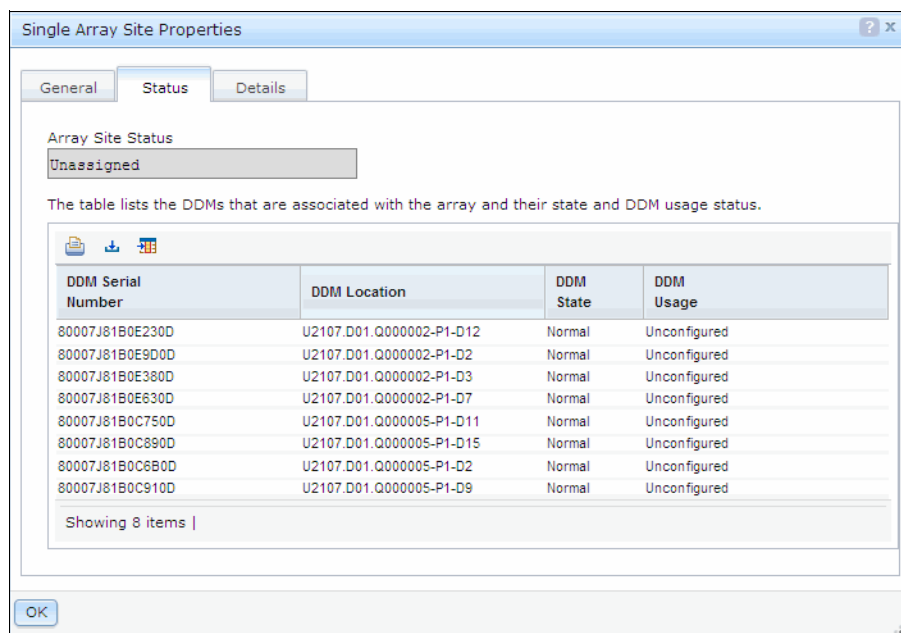

Figure 13-19 Single Array Site Properties: Status
- Click the **Status** tab to get more information about the Disk Drive Modules (DDMs) and the state of each DDM, as shown in Figure 13-19.